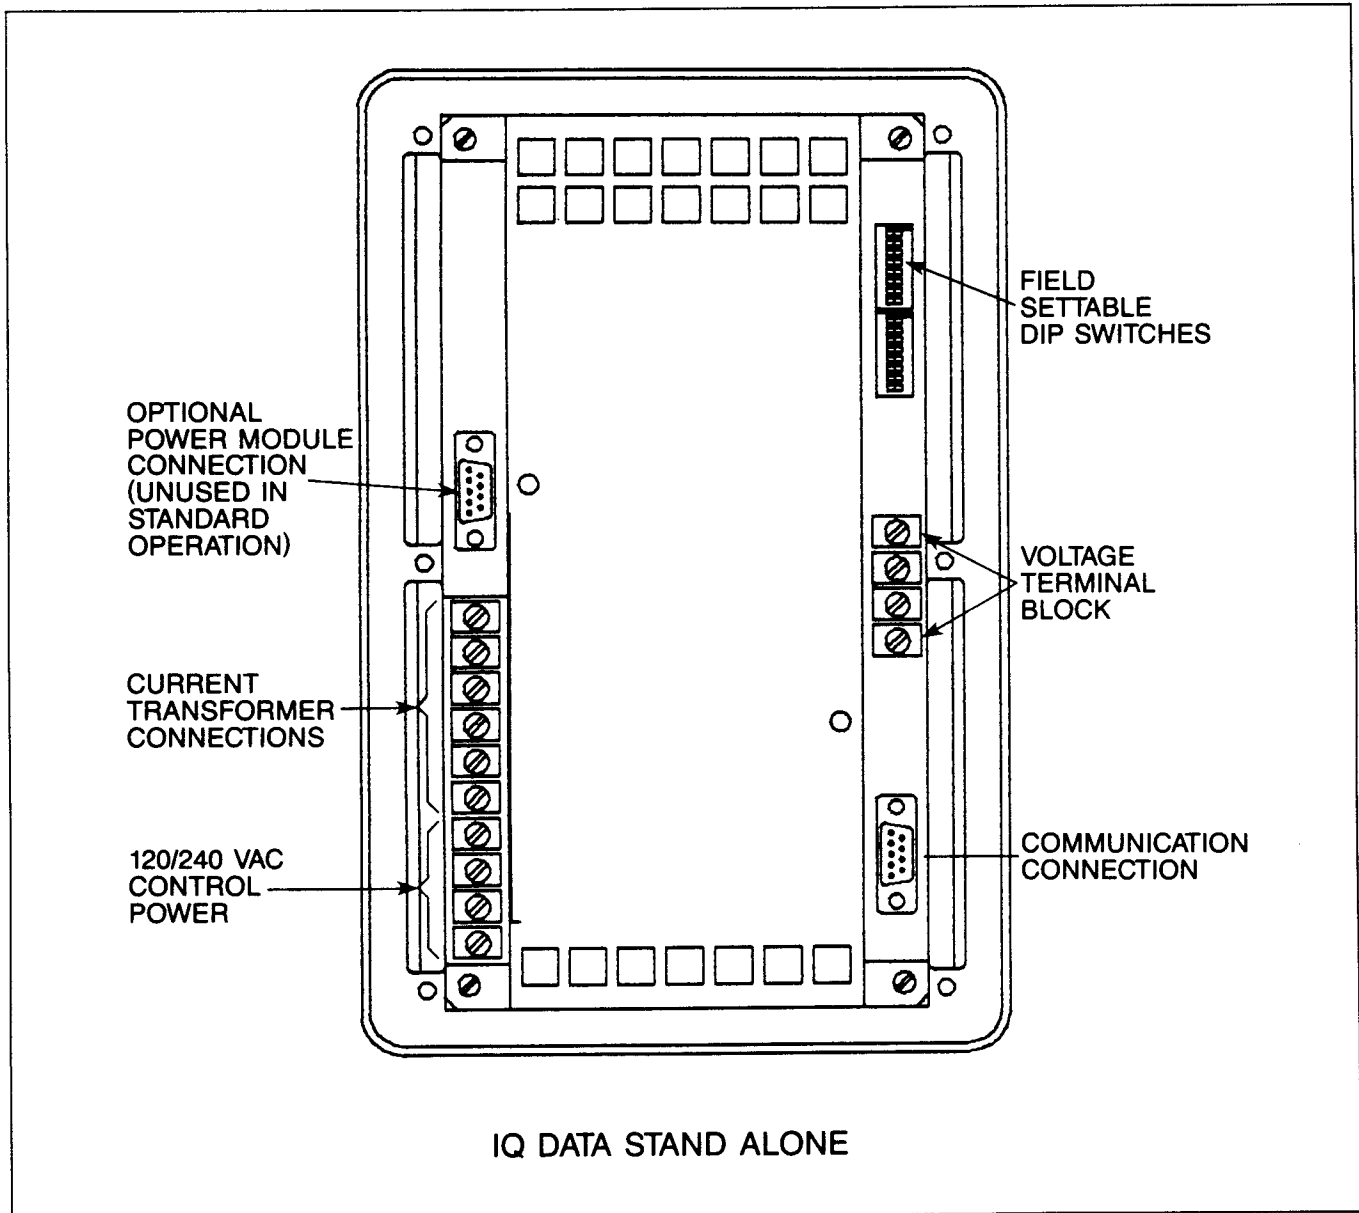
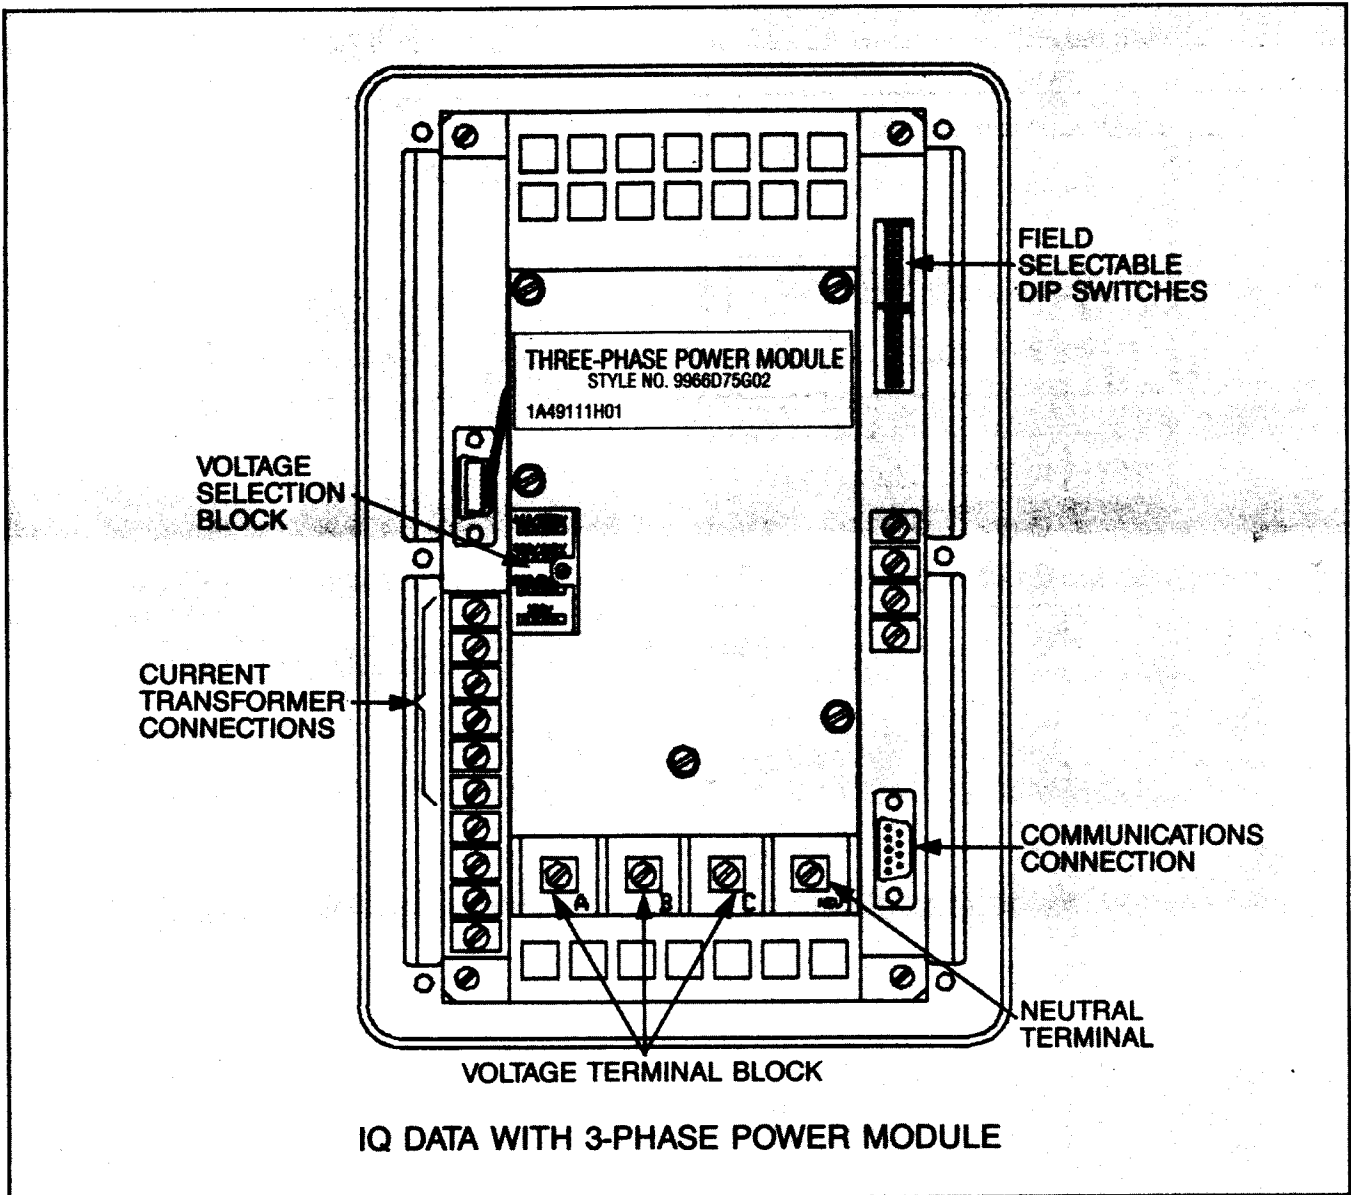

Figure 2.1A — Rear Access Area
Figure 2.1B — IQ Data with 3-Phase Power Module
The standard unit requires 120/240 VAC control power to operate. See Figure 2.1A (page 6). The unit mounted with a three-phase Power Module draws its power from the line it is monitoring.
When using the IQ Data without the 3-phase Power Module, study Figure 2.1A and note the following items:
When using the 3-phase Power Module, study Figure 2.1B and notice the differences between it and Figure 2.1A. The following are differences and additions to the 6 items above.
**4.1.4 Voltage Selector Jumper** — It is necessary to match the placement of the Voltage Selector Jumper with the incoming AC line voltage, measured line-to-line. (See Figure 2.1B.)